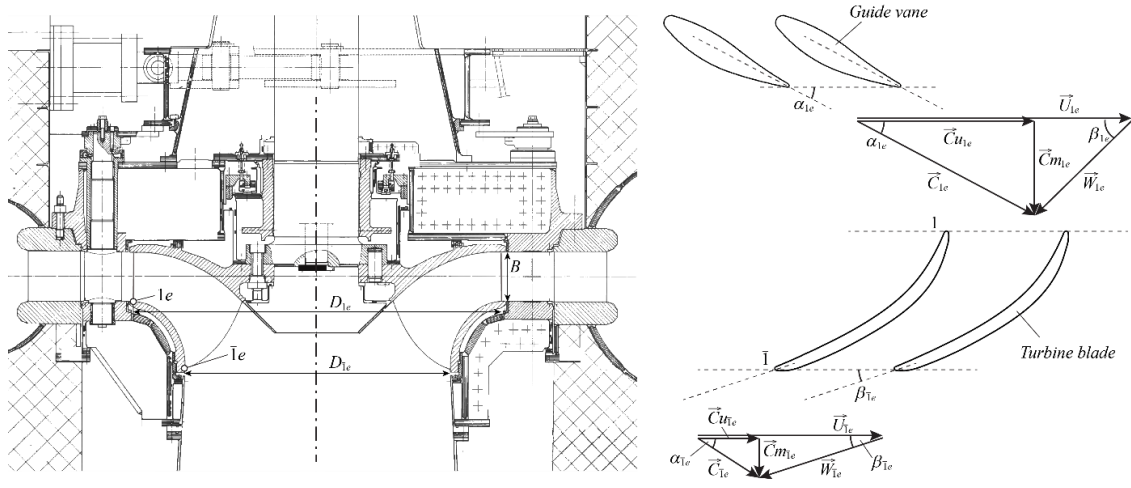

Figure 1. Scheme of the hydropower plant with its characteristics.
The meridional view of a Francis turbine and one example of the velocity triangle are sketched in Figure 1. For a Francis turbine, the angle of the absolute flow velocity at the inlet α_{1e} corresponds to the guide vane opening degree, and the angle of the relative flow velocity at the outlet corresponds to the outlet blade angle β_{2e} , as shown in Figure 1. Referring to the figure, answer the following questions.
- 3) Give the meridional components of the flow velocity C_{m1e} and C_{m2e} as functions of the discharge Q and the volumetric efficiency η_v , by using the geometrical parameters defined in the left part of Figure 1.